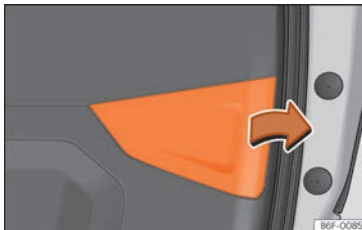

Fig. 53 Rear lid open: remove the cover.
- Remove the rear lid cover in the direction indicated »» **Fig. 53**.